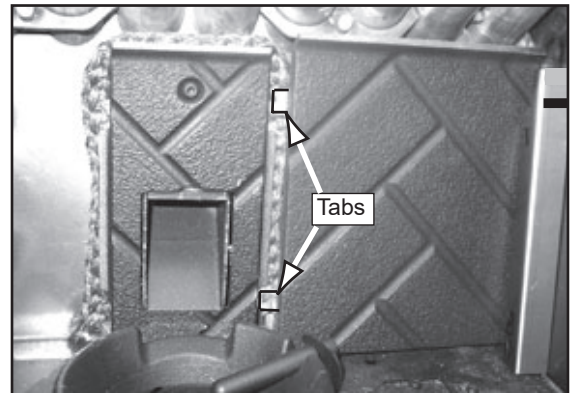

Figure 26.4
1. Place right brick in behind the right bracket, and then slide to the left so the tabs are behind the center brick (**Figure 26.4**).